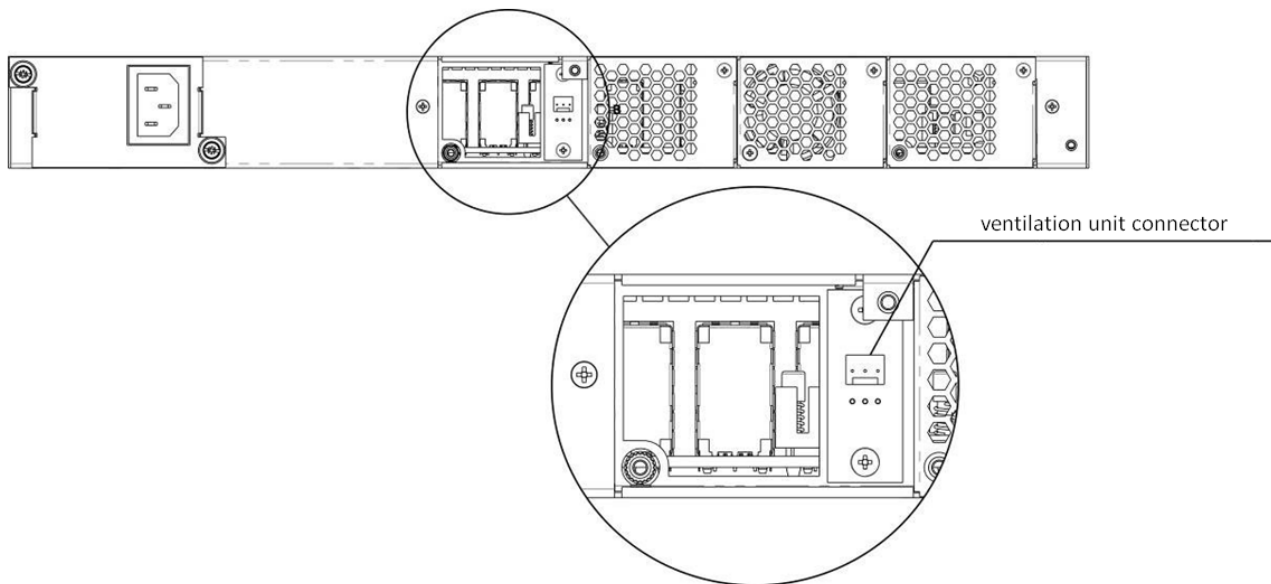

Figure 54 – Ventilation unit socket
- **Step 3.** Disengage the pins of the unit from the connector in the device (see Figure 54).
- **Step 1.** Connect the pins of the unit with the connector in the device (see Figure 54).